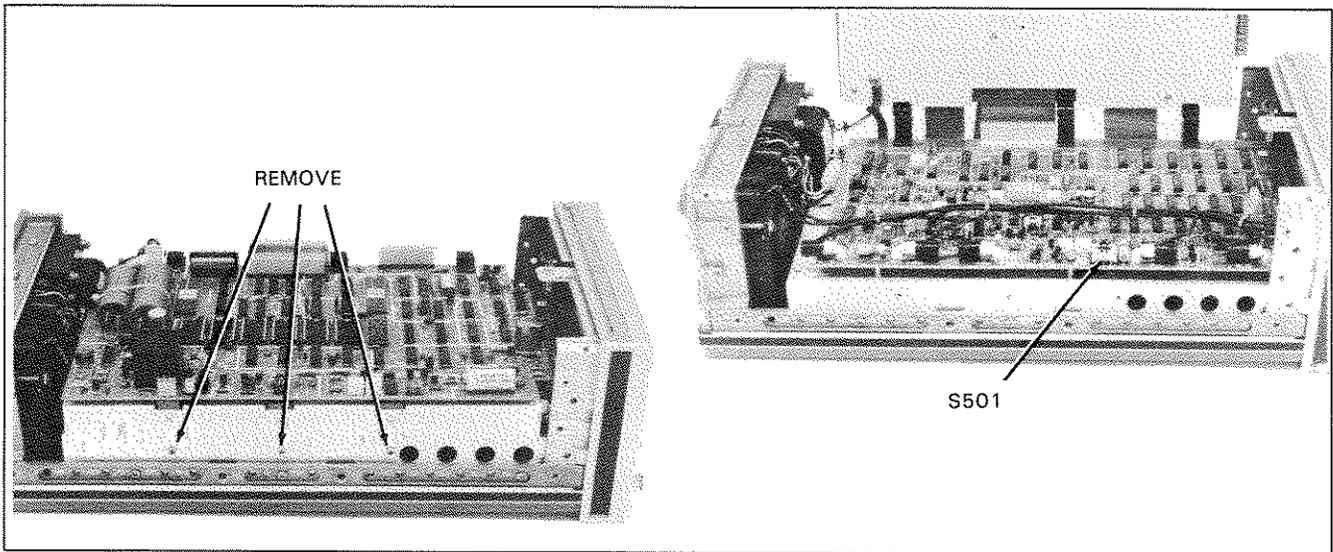

Figure 2-3. Z-AXIS Polarity Selection
3. Remove the three screws that secure the A3 PC Assembly shield to the main deck. See Figure 2-3.